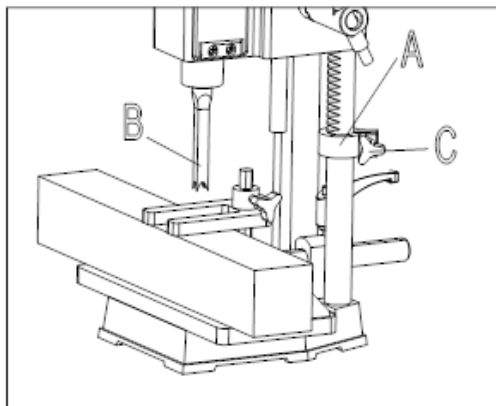

Fig. 11
A depth stop guide (A) Fig. 11, is provided to limit the depth of the chisel (B). To adjust the depth stop guide (A), loosen screw (C) and lower head until the chisel (B) is at the desired depth. Lower depth stop guide (A) until